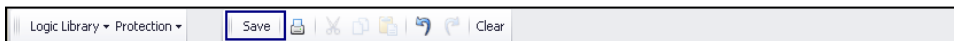

Figure 2-18. BESTlogicPlus Toolbar
Step 12: Click the Save button to save the logic to BESTCOMSPPlus memory for later inclusion in the settings file. See Figure 2-18.